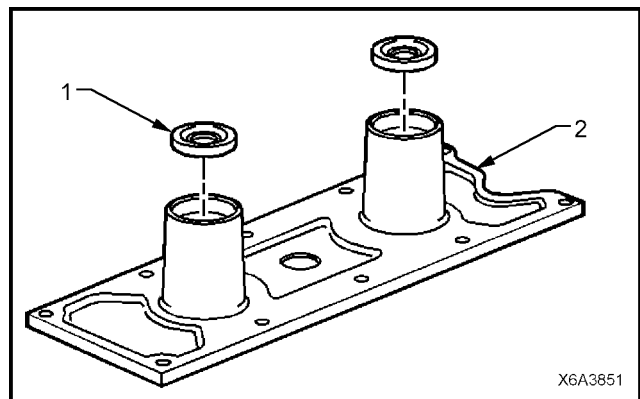

Figure 6A3-86
1. Install NEW knock sensor oil seals into the valley cover and lubricate with clean engine oil (refer '1' in Figure 6A3-86).